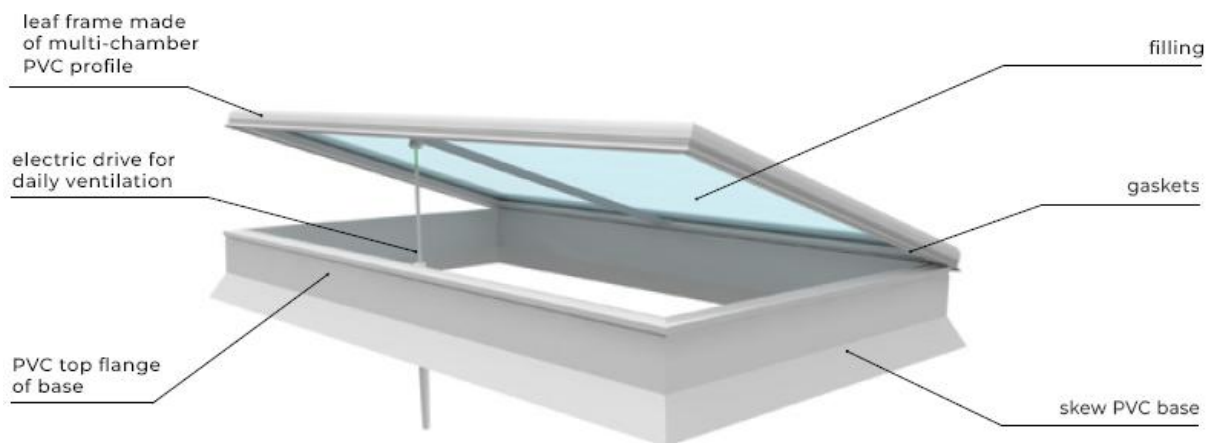
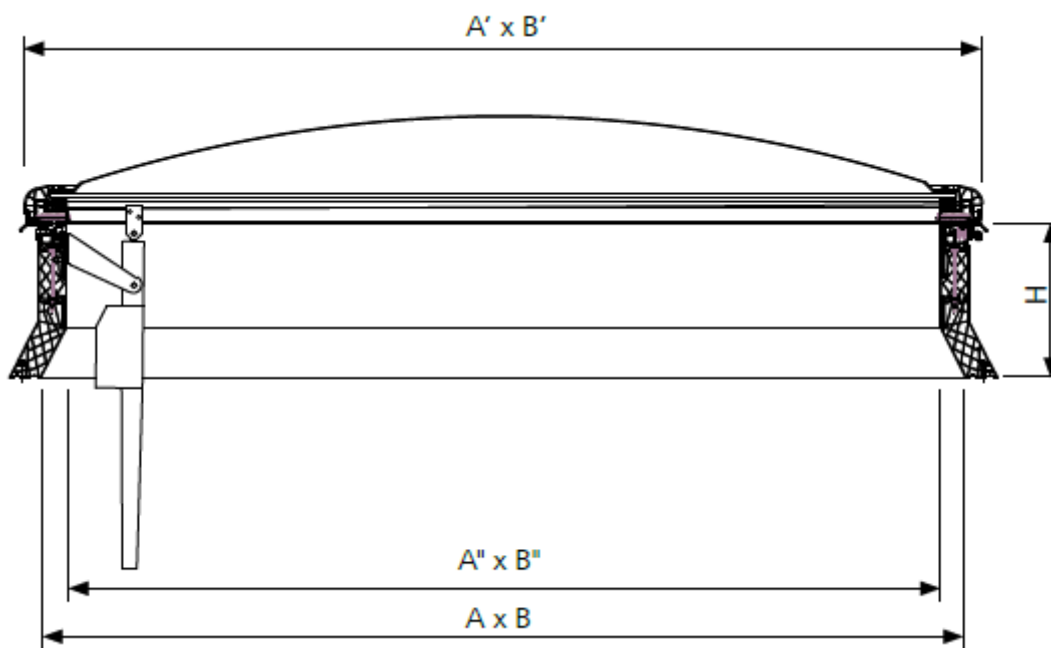

Fig. 7. Ventilation vent of mcr ULTRA THERM type with skew PVC base.
Fig. 8. Cross-section through ventilation vent of mcr ULTRA THERM type with skew PVC base.
- a) with PVC base → see Fig. 7, Fig. 8,